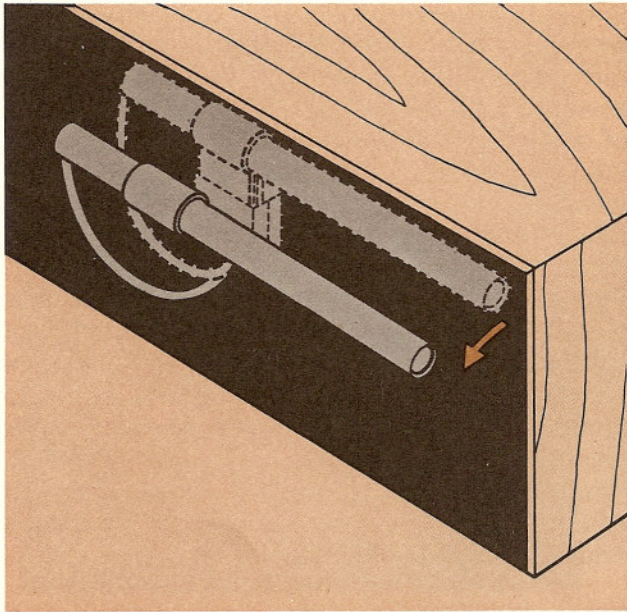

Figure 4. AM Ferrite-rod Antenna
**BEFORE USING THE MODEL 2230, PULL THE ANTENNA OUT AS SHOWN IN FIGURE 4.**